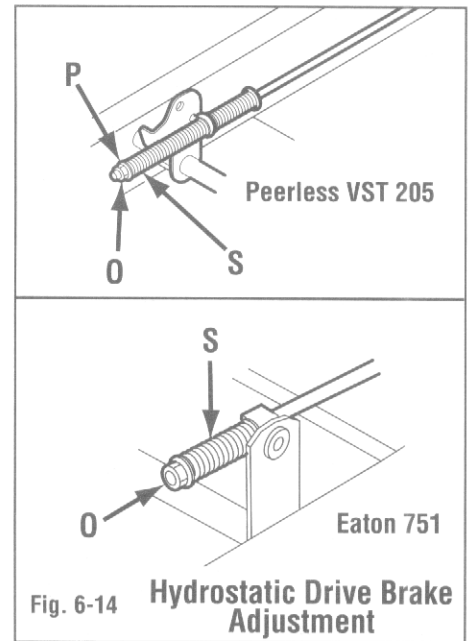

Fig. 6-14
- Adjust locknut (O, Fig. 6-14) so that a gap of 1/16" exists between washer (P) and spring (S).
- Adjust locknut (O, Fig. 6-14) so that spring (S) is compressed to a length of 4-1/4".